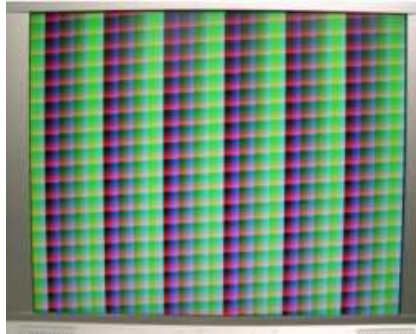

Figure 2.4. 4096-color VGA Pattern
- ✓ You should see a 4096-color pattern on your LCD monitor. Set the DIP switch 4 to ON for 800x600; set DIP switch 4 to OFF for 640x480 (Please refer to Figure 2.4).